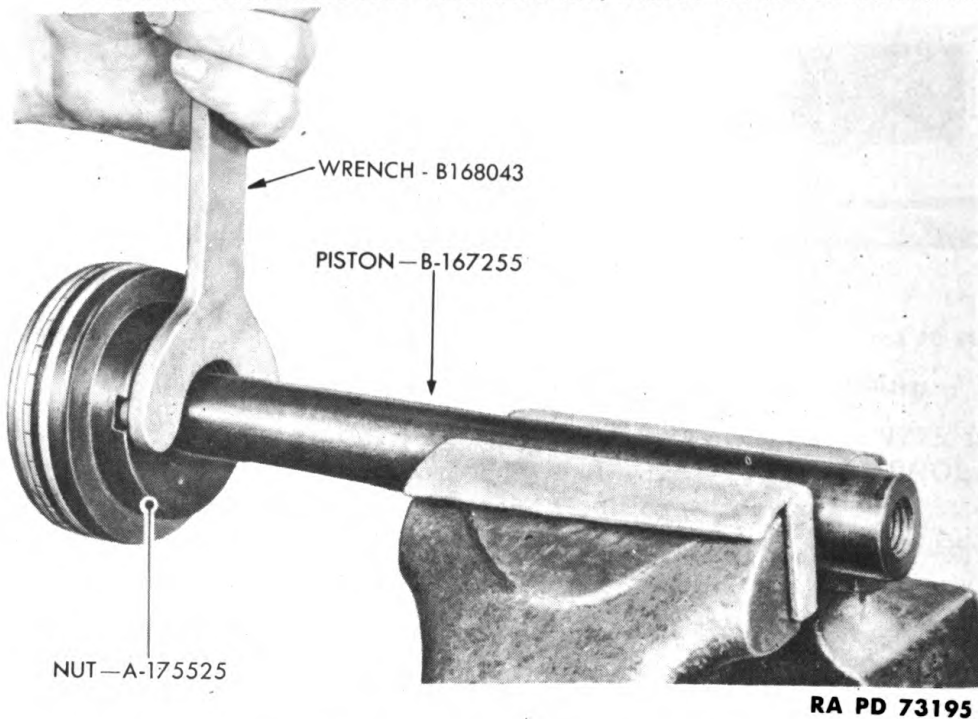

Figure 116—Removing Nut from Replenisher Piston
g. To disassemble replenisher piston for replacement of packing, place piston in a vise fitted with copper jaws and remove nut A175525 (fig. 116).